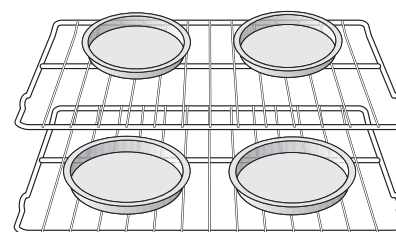

Figure 1: Baking on multiple levels
- For best results when baking cakes or cookies using 2 oven racks, place cookware in rack positions 3 & 6 and pans as shown in Figure 1